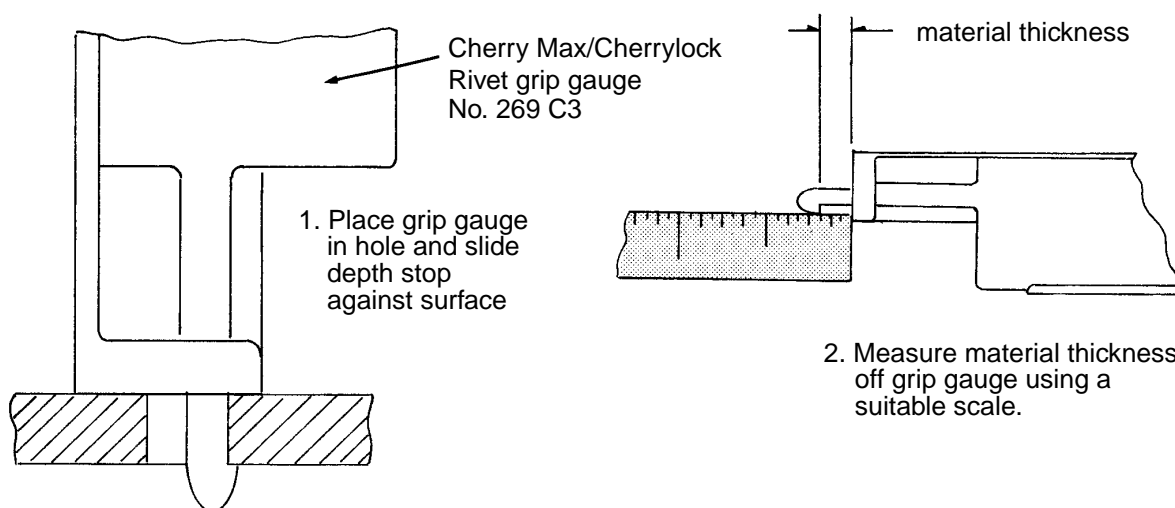

Figure 6 - Use of a Rivet Grip Gauge to Check Material Thickness
- 5.4.2 Rivnuts are extremely grip length sensitive and it is imperative that the correct grip length be selected and used in order to ensure satisfactory performance of the fastener in service. In order to verify that the grip length specified is correct, measure the combined material thickness after final drilling using a CherryMax/Cherrylock rivet grip gauge No. 269C3 as shown in Figure 6. The fastener grip length specified is only a REFERENCE LENGTH, and if the grip length determined by measurement does not agree with the specified grip length, install a Rivnut with the measured grip length.